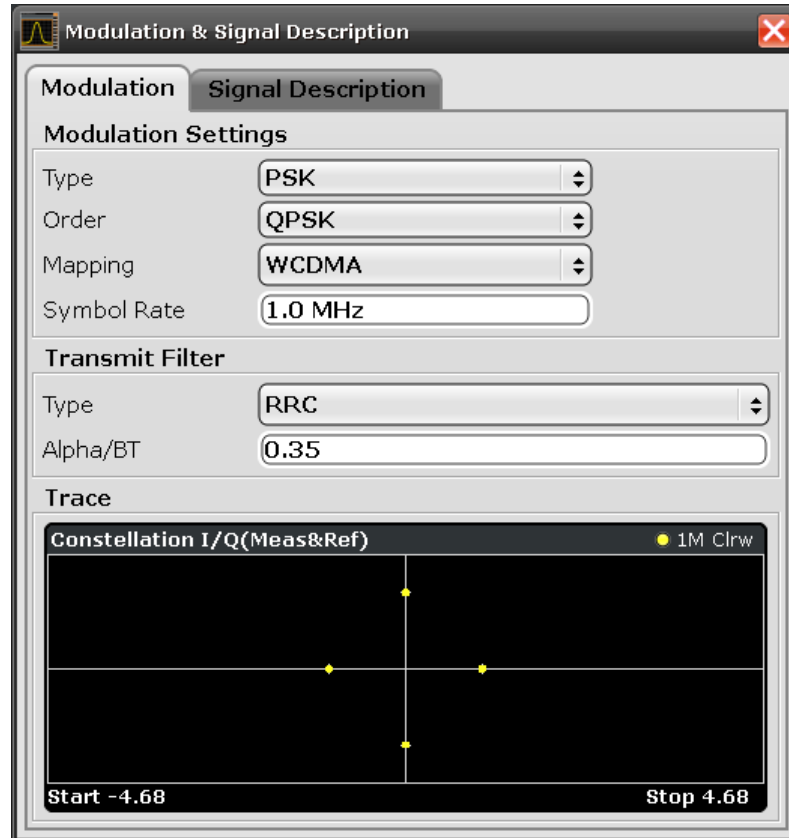

Fig. 4-2: R&S FSV-K70: Modulation Dialog for Measurement Example 1
- c) In the "Transmit Filter" section, select "RRC" as "Type" and enter the "Alpha/BT" value 0.35. In the preview area of the dialog you should then see a non-distorted QPSK constellation diagram, as shown in figure 4-2.